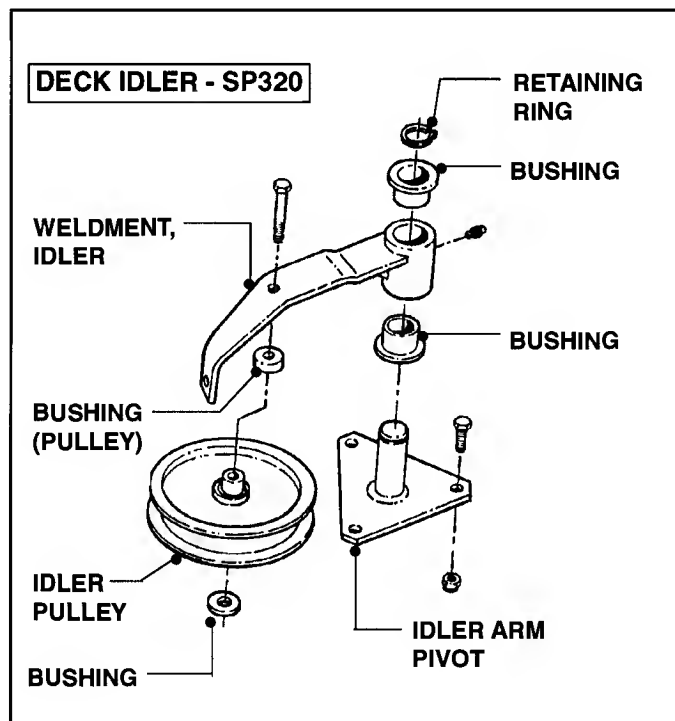

FIGURE 6.8
These Idler Pulleys depend on a spring for proper belt tension. If the Mower Deck Belt will not maintain proper tension, first check the Spring for over-tensioning or breakage. If Spring is functioning properly, then check the Deck Idler for worn or broken parts. See Figure 6.8.
**A. IDLER PULLEY** - Move Idler away from Drive Belt and manually turn Pulley. Check for any looseness, wobble or "freezing" of Pulley. Replace as required. Refer to Figure 6.8.